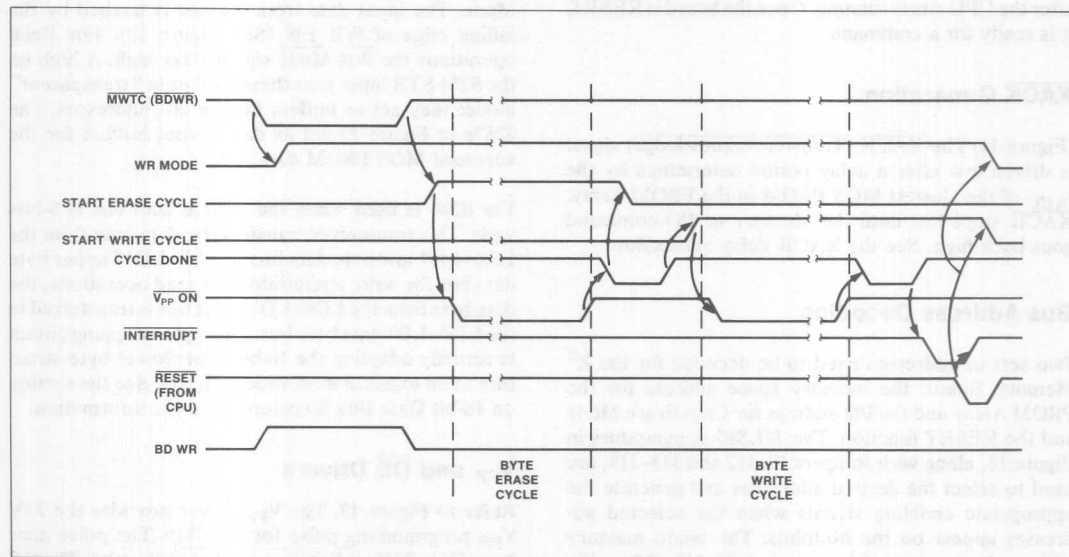
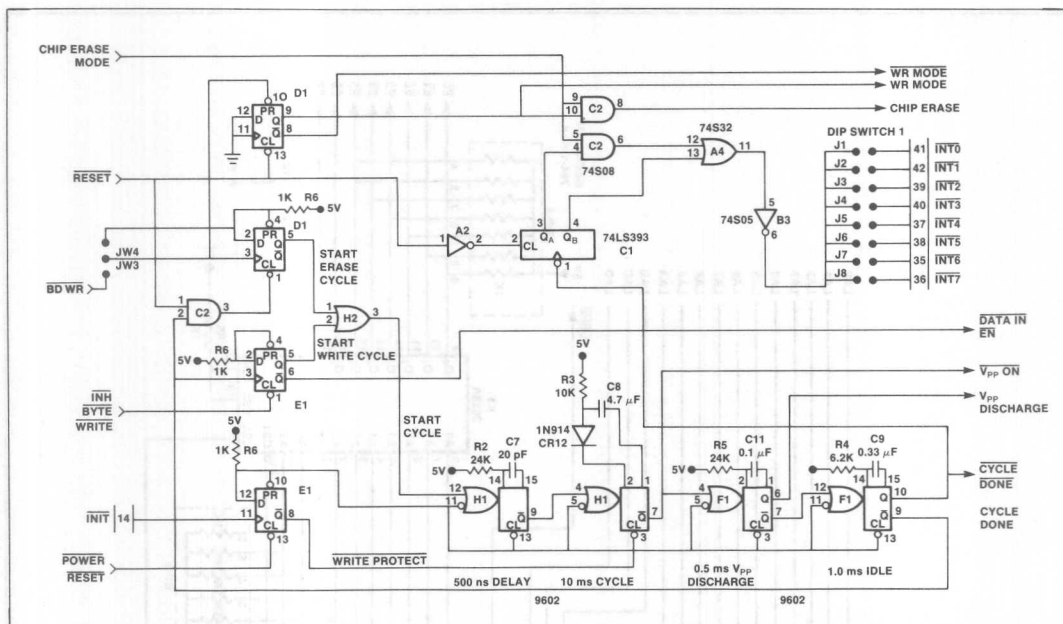
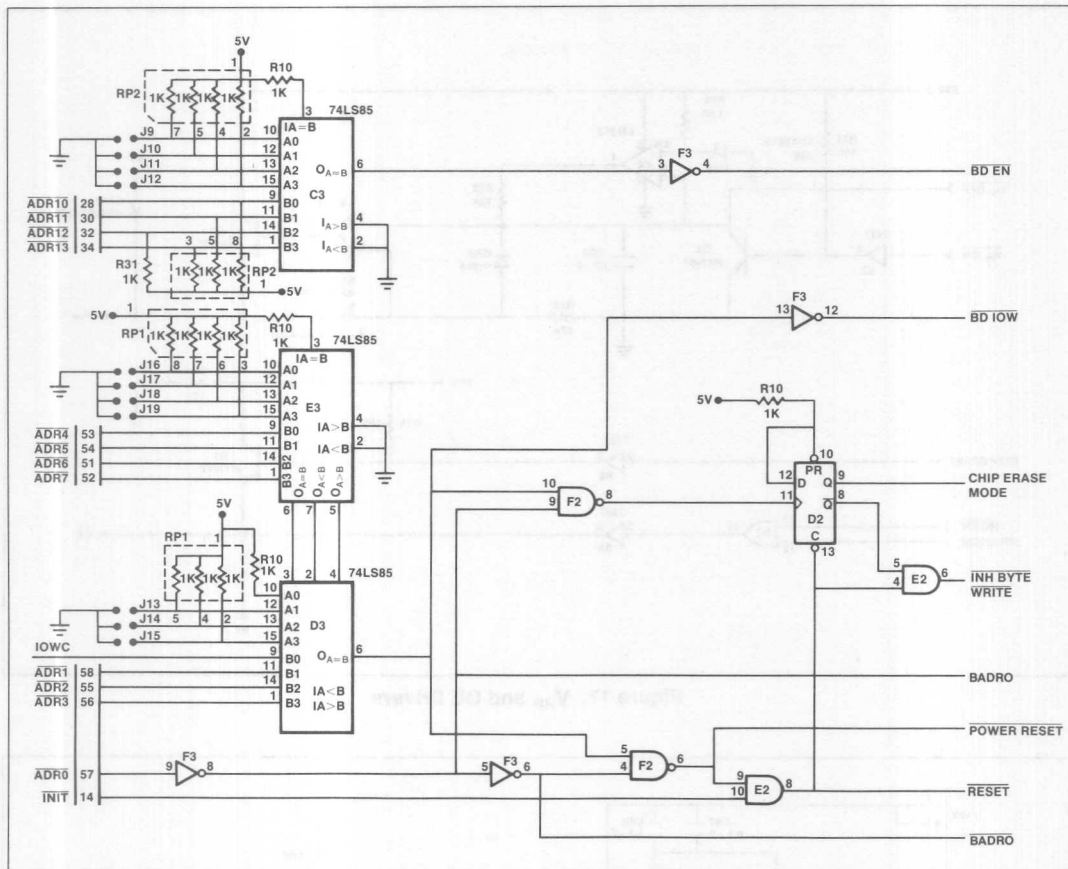

Figure 9. Write Operation: Byte Erase and Byte Write Cycles
Figure 10. Write and Erase Sequencing and Timing
Figure 16. Board Address Location Selection, RESET and Chip Eraser I/O Address Selection
Refer to Figures 10 and 11 and to the timing diagram in Figure 9.
now shut off ($\overline{V_{\text{pp}}\text{ ON}} = 1$) but the voltage on the V_{pp} line will take a long time to discharge to 5V. This is due to the 4.7 μf of low-frequency decoupling capacitor, connected from V_{pp} to ground; the capacitor is needed to suppress low frequency noise (See Figure 17). In order to pull the V_{pp} line down fast, the V_{pp} Discharge signal turns on Q8 which discharges the capacitor. When the third one-shot times out, the Cycle Done One-Shot starts, which clears the start Erase Cycle FF and forces $\overline{\text{CE}}$ high (Figure 16 and Figure 10). The rising edge of Cycle Done sets the Start Write Cycle FF and causes the 74LS393 counter (Figure 10) to increment from 0 to 1. This starts the one-shot chain again to perform the byte write cycle. The Data In En signal enables the latched data onto the input lines. The one-shot chain then delays, activates V_{pp} , and discharges the V_{pp} line. This time the data byte is written into the selected 2816 address location. The 74LS393 counter is incremented a second time and its QB output lowers one of the Multibus Interrupt Lines. The CPU RESETS the E² board with an IOWC command. The WR Mode FF, the Start Write FF and the 74LS393 counter are cleared, and the E² Board is ready for the next operation.
3. At the end of the byte erase cycle the Cycle Done signal does not set the Start Write Cycle FF. Instead, the Start Write Cycle FF is held in a clear state by the $\overline{\text{INH}}$ Byte Write signal shown in Figure 10. Cycle Done increments the 74LS393 counter from 0 to 1. The Q_A output is now used to lower one of the Interrupt Lines to signal the CPU that the Chip Erase Operation is complete. When the CPU resets the E^2 Board, the Chip Erase FF is also cleared.
Two sets of addresses need to be decoded for the E^2 Memory Board: the memory space address for the PROM Array and the I/O address for Chip Erase Mode and the RESET function. The 74LS85 comparators in Figure 16, along with Jumpers J9–J12 and J13–J19, are used to select the desired addresses and generate the appropriate enabling signals when the selected addresses appear on the Multibus. The board memory address is determined by jumpers J9–J12. When the correct memory address is put on the bus, the $\overline{\text{MEM}}$ EN signal goes low. The $\overline{\text{INH1}}$ (INHIBIT RAM) signal is driven low on the Multibus to disable any RAM memory that is occupying the same memory space as the E^2 Board.
(Figure 16). If ADR0 is low, the RESET function is activated. If ADR0 is high, the Chip Erase FF is set.
above. This keeps the V_{PP} driver disabled until about 500ms after V_{CC} reaches 5V. About 400ms before V_{CC} reaches 5V, the Write Protect FF in Figure 10 is set by the Multibus INIT signal. This FF will hold the V_{PP} ON one-shot disabled until the CPU RESETS the E² Memory Board and the Write Protect FF. Thus, the Q4/C30 circuit holds the V_{PP} driver off until long after the TTL logic has stabilized and the Write Protect FF has disabled the V_{PP} ON one-shot.